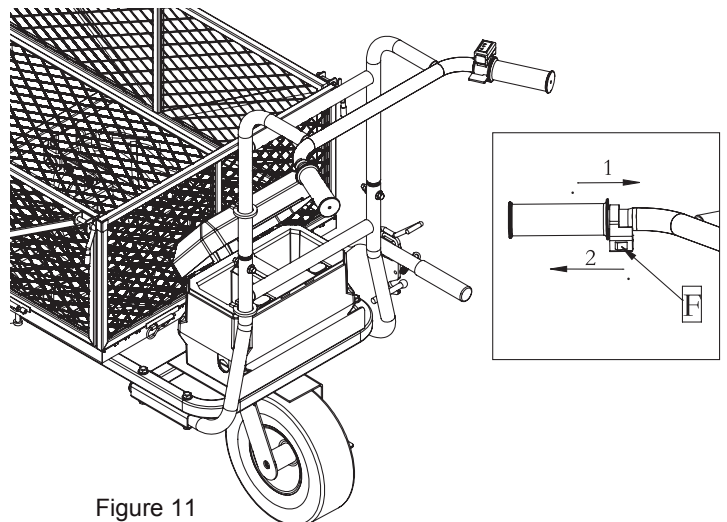

Figure 11
3. Use the direction button (F) on the left handle for forward and reverse. (See Figure 11)